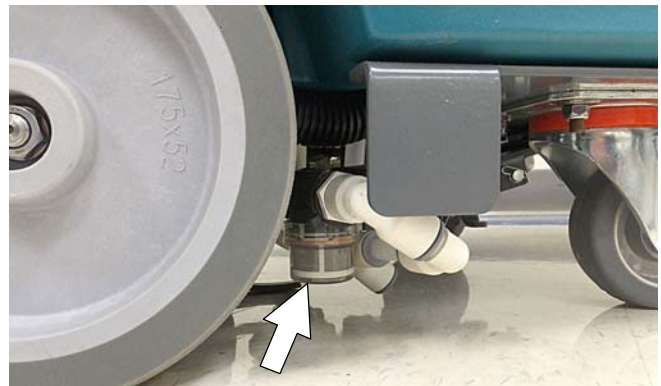

FIG. 96
2. Empty the water from the solution tank filter located under machine. Replace filter (Figure 96).